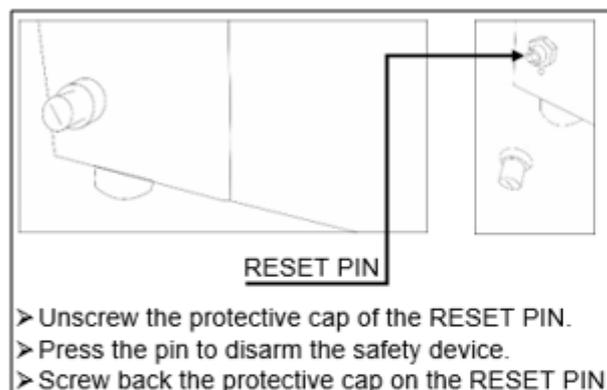

Fig.6
- Follow instructions of the Fig. 6 to reset the appliance.